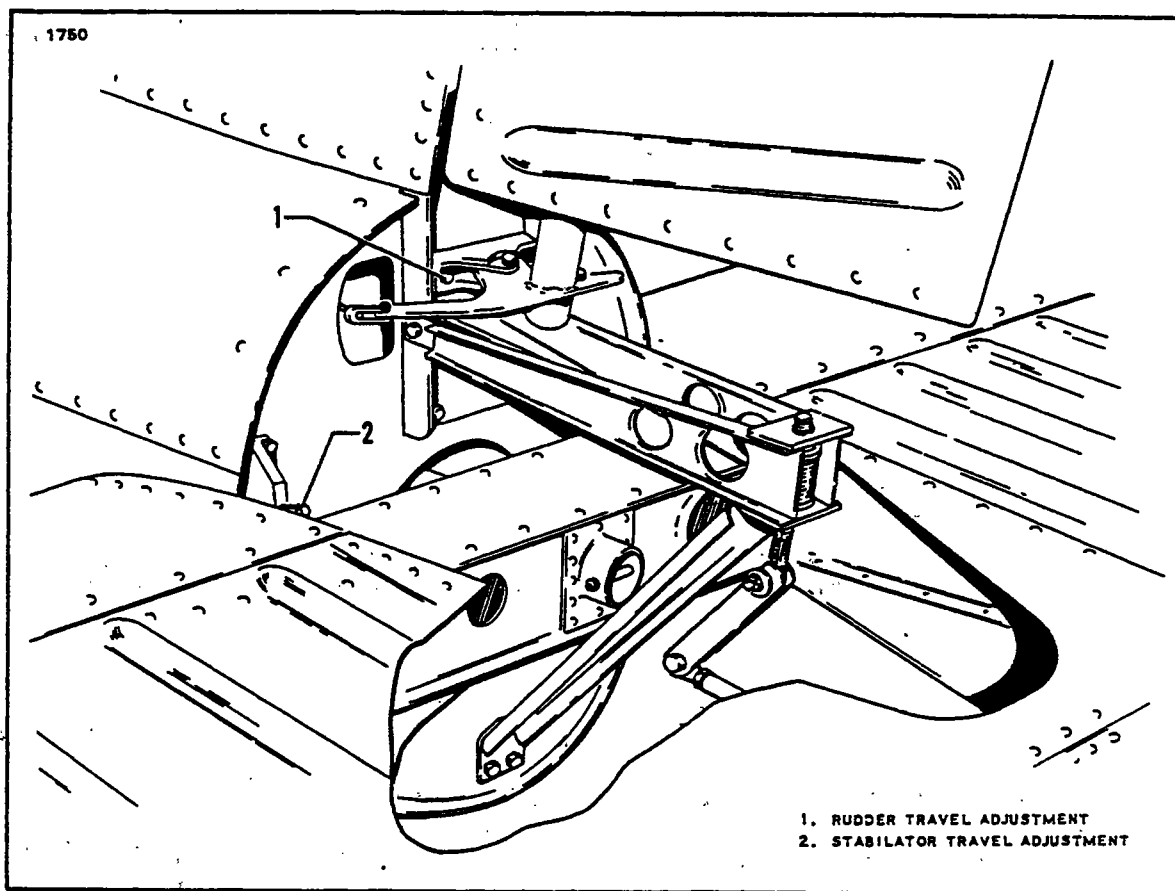

Figure 5-16. Rudder and Stabilator Travel Adjustments
4. Should the rudder travel be incorrect showing a gap between the tool and any part of the control surfaces, the tail cone fairing should be removed and the stops reset to obtain correct rudder travel. (Refer to Figure 5-16.)